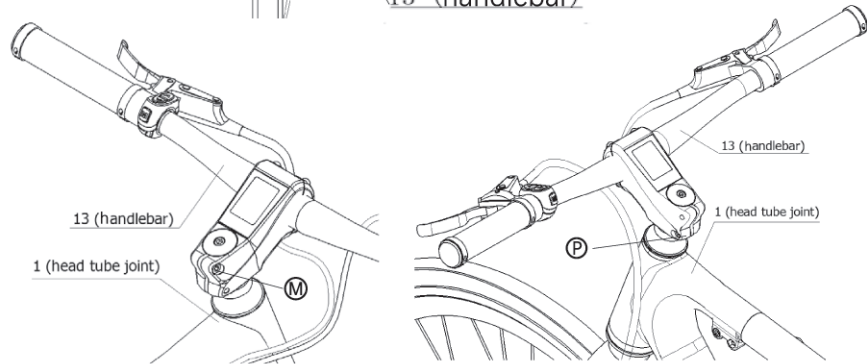

Figure 52-2.
b. Recurrently tighten the two screws  $\textcircled{M}$   $\rightarrow$   $\textcircled{P}$  on Part 13 with a 5 mm Allen key, as shown in Figure 52-2. Based on experience, at least 5 **cycles** are required.